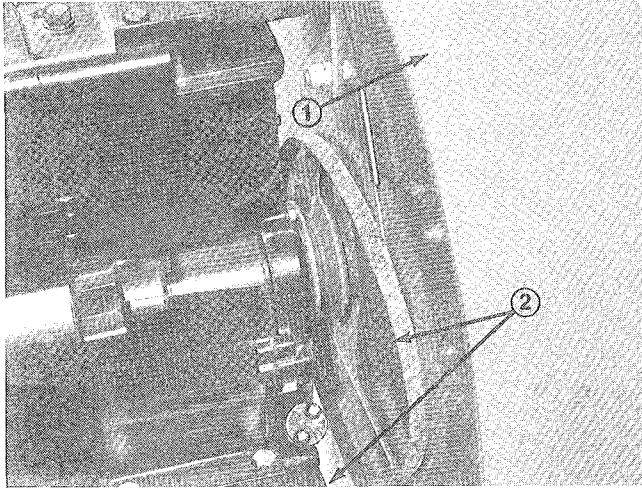

Figure 26
9. Insert the belt over the pulley and down through the opening and reinstall and secure the blower housing (Fig. 26).